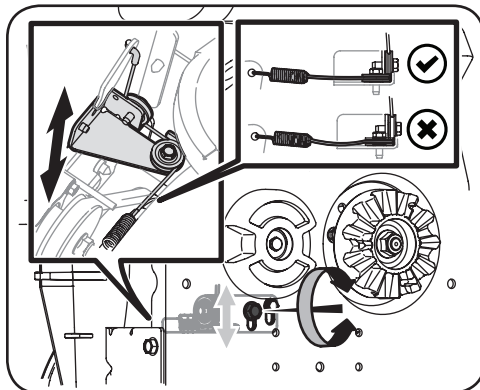

Figure 5-2
3. Looking at the rear mounting plate of the snow thrower attachment, loosen (but do not remove) the left side hex screw shown in Figure 5-2.
4. On the front side of the mounting plate, move the cable tension guide up or down to remove any slack in the auger drive cable. See the left inset of Figure 5-2.
NOTE: Be sure that the adjustment does not apply any pressure on the cable and the actuator arm. This adjustment is simply to remove the excess slack in the auger cable as shown in the right inset of Figure 5-2.